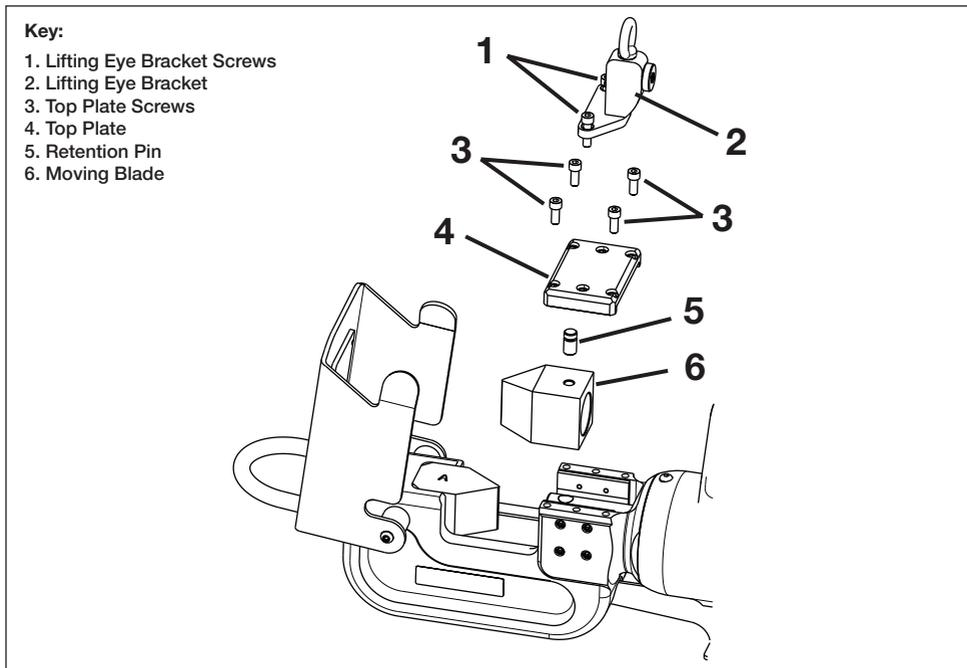

**Figure 15, Fixed Blade Replacement**
Replace the fixed blade as described in the following steps. Refer to Figure 15, items 1 through 3.